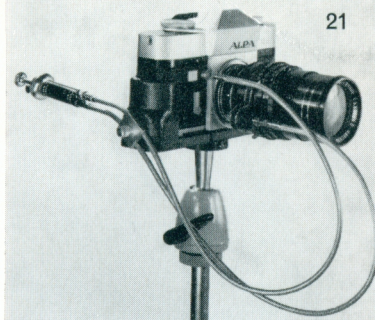

Fig. 36
9) USAN Camera Cradle (Fig. 36)
The automatic lens diaphragm feature is retained by using the bipres twin cable release (Fig. 36). Its plungers must be adjusted in such a way that the lens diaphragm closes before the camera shutter is released.